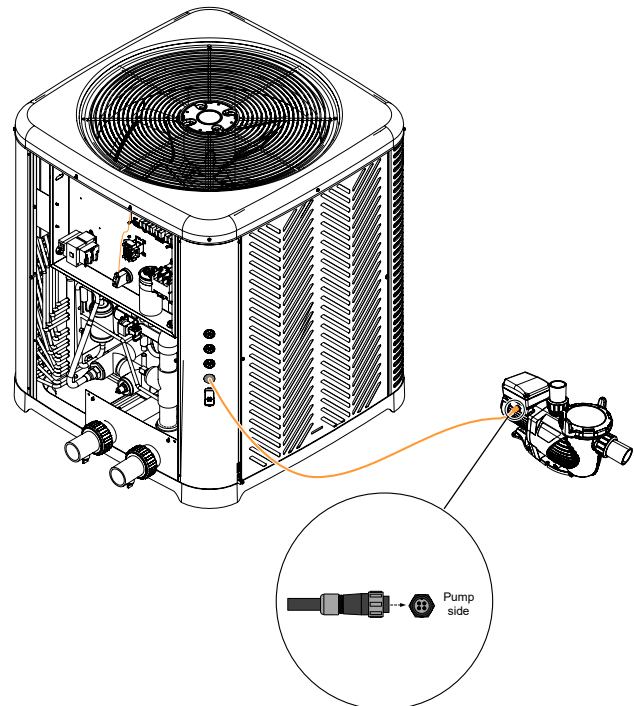

Figure 138. Keyed Circular Connector
- Connect the keyed circular connector of the pump harness to the pump. See Figure 138.